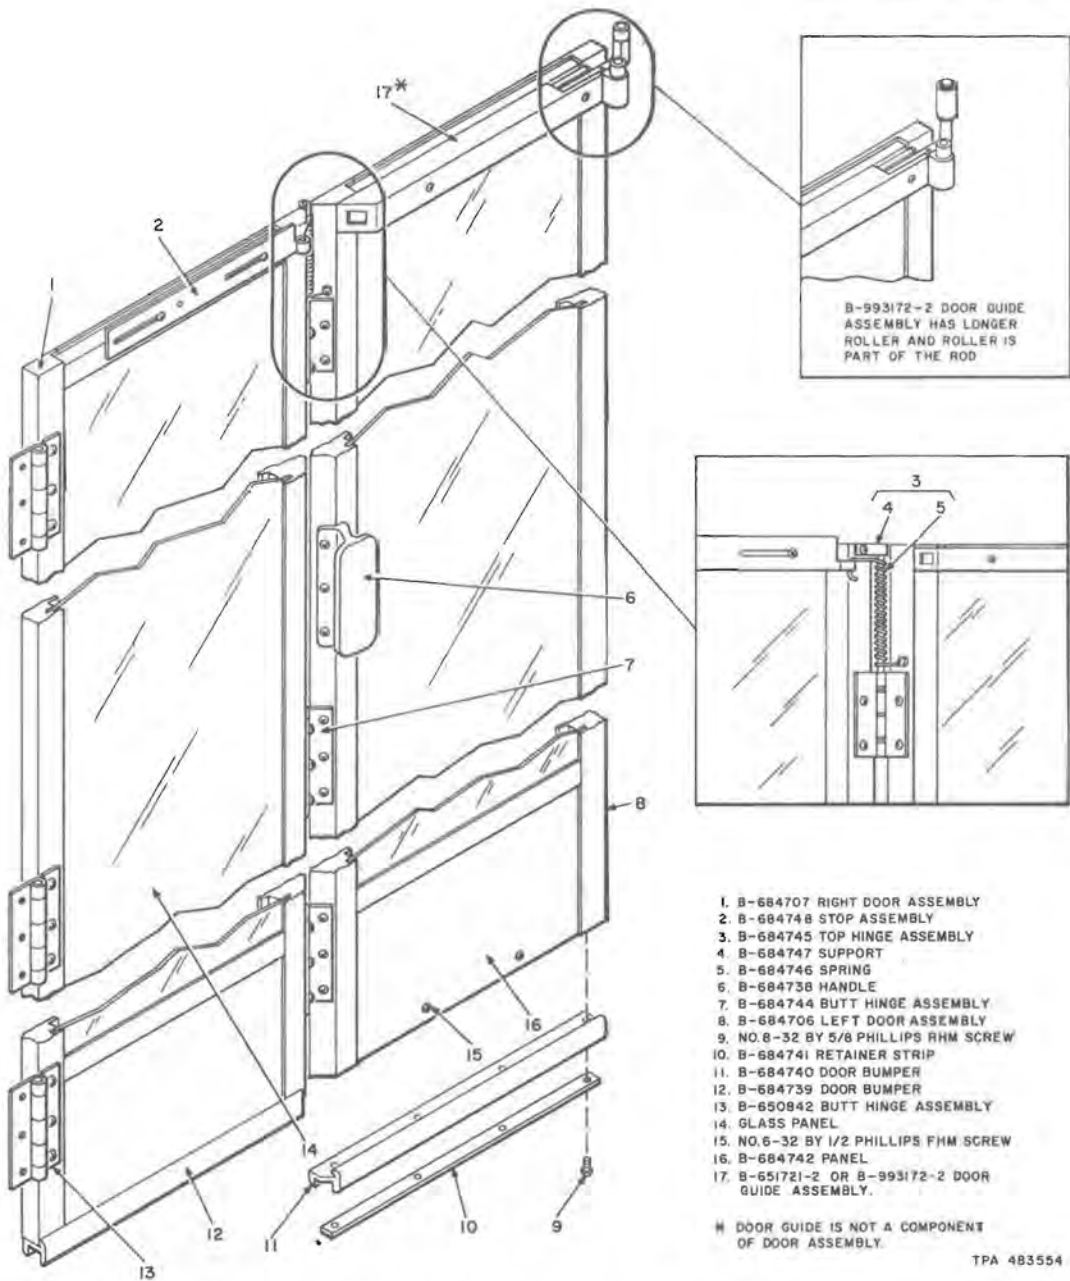

Fig. 24—B-684705 Door Assembly
DOOR REQUIREMENTS AND MAINTENANCE (See Fig. 24 for Replacement Parts)
4.39 In outdoor locations, the door shall be held open 2 to 3 inches when in the normal position. Ensure that maximum tension is obtained on spring in center of door (Fig. 24).
4.46 Replace damaged bumpers along bottom of door (Fig. 24).
4.51 The parts listed in Table C are not shown on Fig. 24, 25, and 26 but may be ordered as necessary.